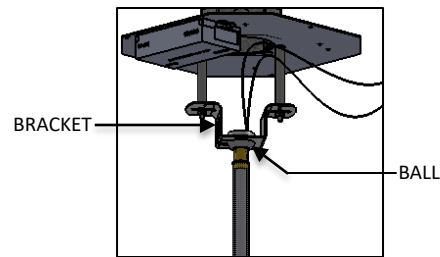

FIG. 10 – CENTER STEM INSTALLATION
4. Attach the CENTER STEM to the MOUNTING BRACKET by inserting the BALL into the opening inside the BRACKET as shown in FIG.10.